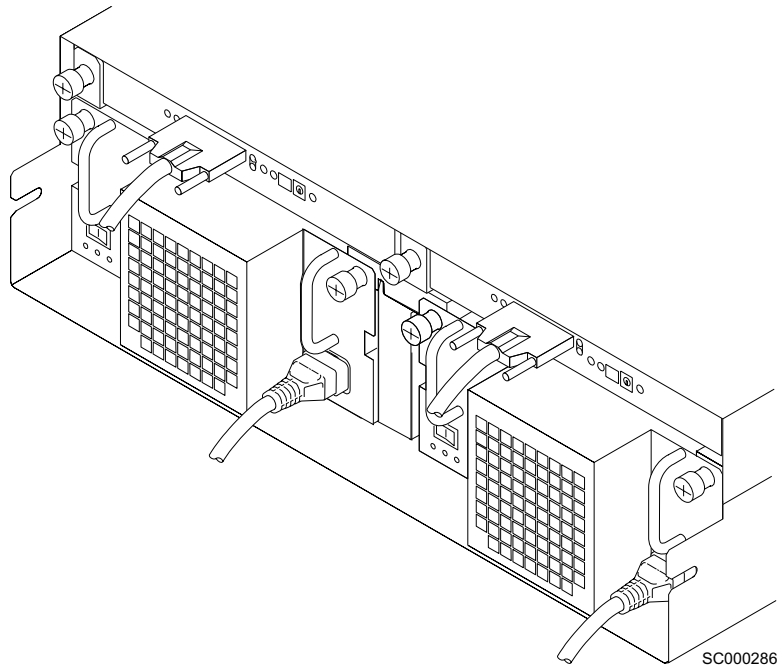

Figure 44. Back of fully configured 2104 Model DS4 after connection to the host system
5. Ensure that all signal cables are correctly connected. See Figure 44. An incorrect connection can prevent the 2104 Model DS4 from becoming ready.